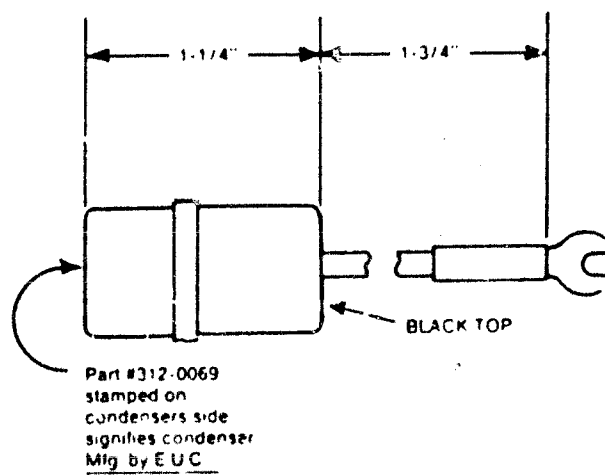

FIGURE 2.
- 4) Order a sufficient quantity of replacement 312-0069 (Black top/fig. 2) condensers to replenish your stock. These condensers use materials that are appropriate for all applications.